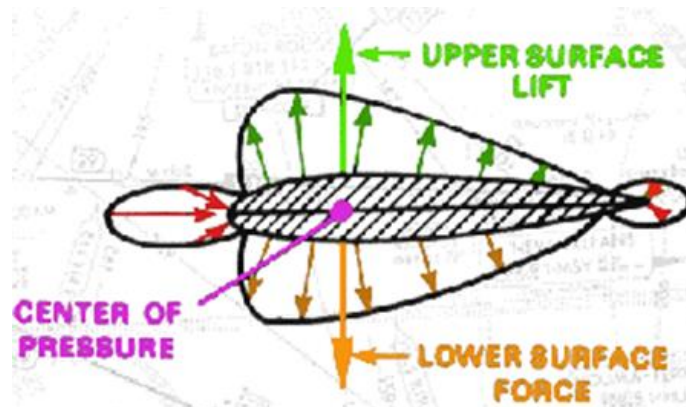

Fig.5: Symmetrical airfoil pressure distribution
Measure the pressure distribution over a NACA 63(2)-215 symmetrical airfoil having span of 600 mm, chord length of 150 mm, Reynolds number of 3×10^5 (laminar) and determine coefficient of pressure, lift, and drag coefficient at different angle of attack. Also plot α vs C_L , α vs C_D , and x/c vs C_p , (Fig. 5).
3. Determine c_l , c_d , and c_p for the NACA Symmetrical airfoil (Fig. 5).